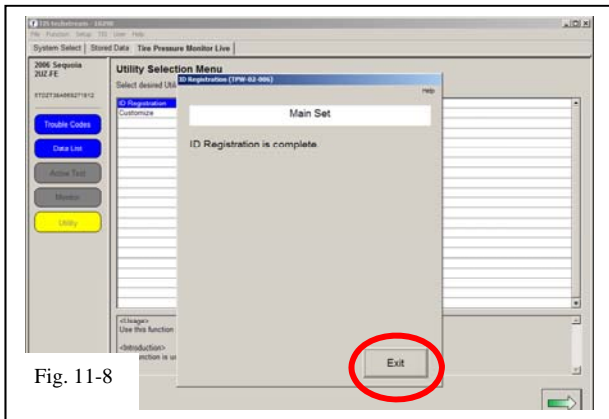

Fig. 11-8
- (k) After all TPMS ID numbers have been registered, “ID Registration is complete” text should be displayed. Click “Exit” to finish the registration process (Fig. 11-8).